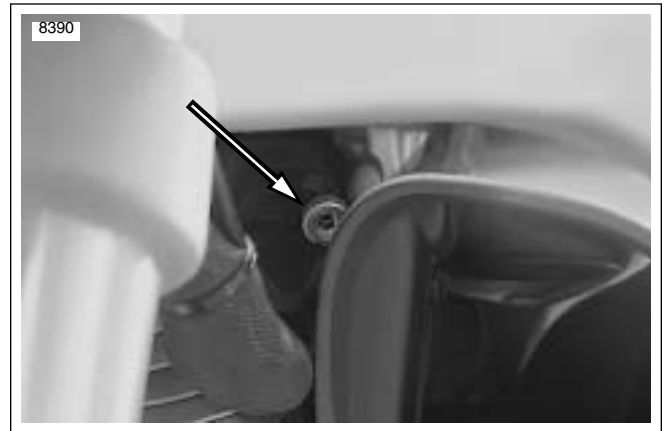

Figure 1-62. Idle Adjuster (behind left fork)
5. See Figure 1-62. Back off idle adjustment until TP volts stop decreasing and then continue to back out one full turn.